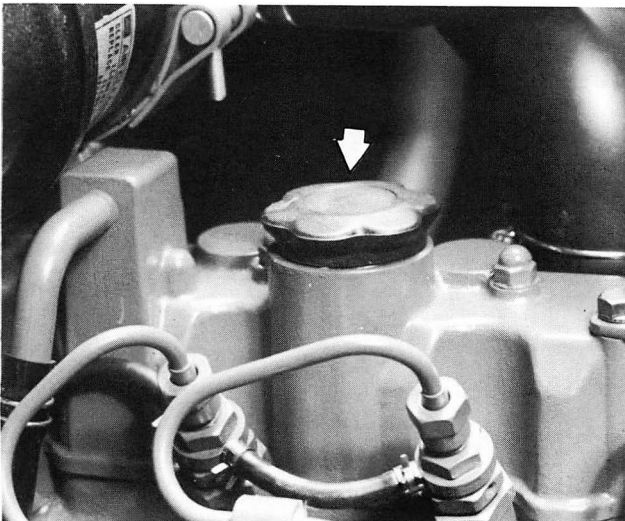

Figure 38 — Engine Oil Filler Cap
2. If the oil level is low, remove the filler cap, Figure 38 and add oil to the engine through the filler hole to bring the oil level between the marks on the dipstick. Be careful not to overfill.